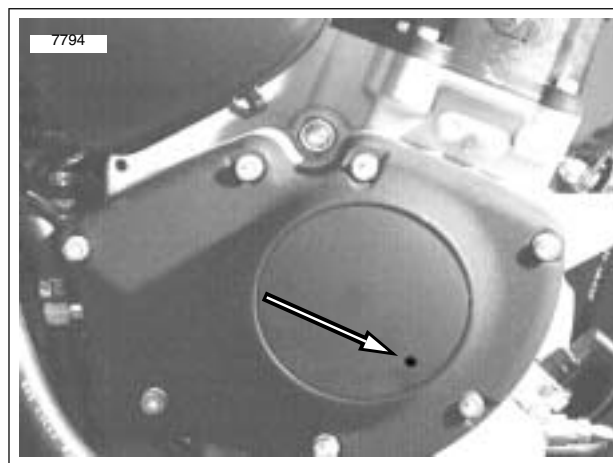

Figure 7-18. Drill Hole Location for Drilling/Removing Timer Cover
See Figure 7-18. The rotor cup is located in the gearcase cover on the right side of the vehicle behind the integrated ignition module. The rotor is mounted on the camshaft and operates at one-half crankshaft speed. See IGNITION TIMING for information on the function, testing and adjustment of the integrated ignition module and trigger rotor assembly.
7. See Figure 7-18. Drill hole in outer timer cover at 5:00 position approximately 0.500 in. (13 mm) in from outside edge. Pull out outer timer cover using 90 degree pick or other suitable tool.
7. See Figure 7-18. Drill hole in location shown and remove outer timer cover, if not removed.
10. See Figure 7-18. Tighten module plate screws to 10-20 in-lbs (1-2 Nm)